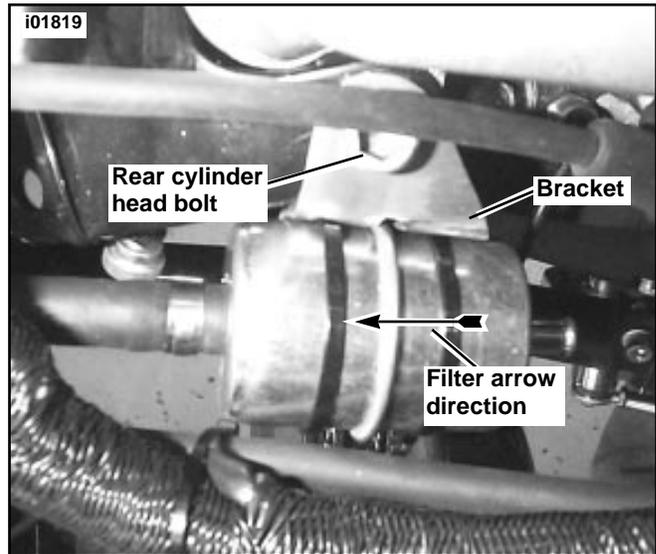

Figure 4. Clamp Mounting
13. See Figure 4. Remove the rear cylinder head bolt and washer. Discard washer.